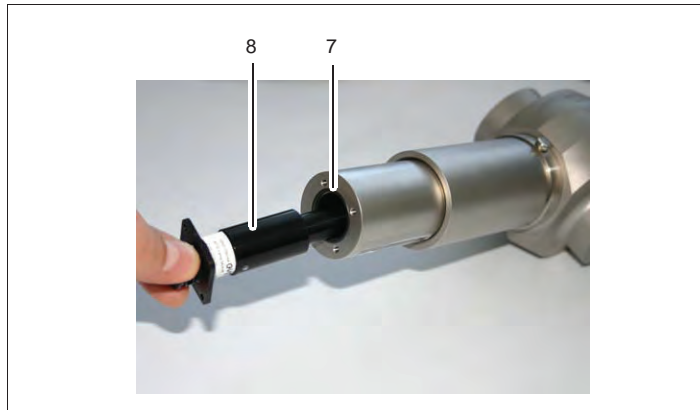

Fig. 11 Exchange of the lamp module
4. Pull out the lamp module (8, fig. 11).
5. Check if there is an O-Ring (7) for the lamp module.